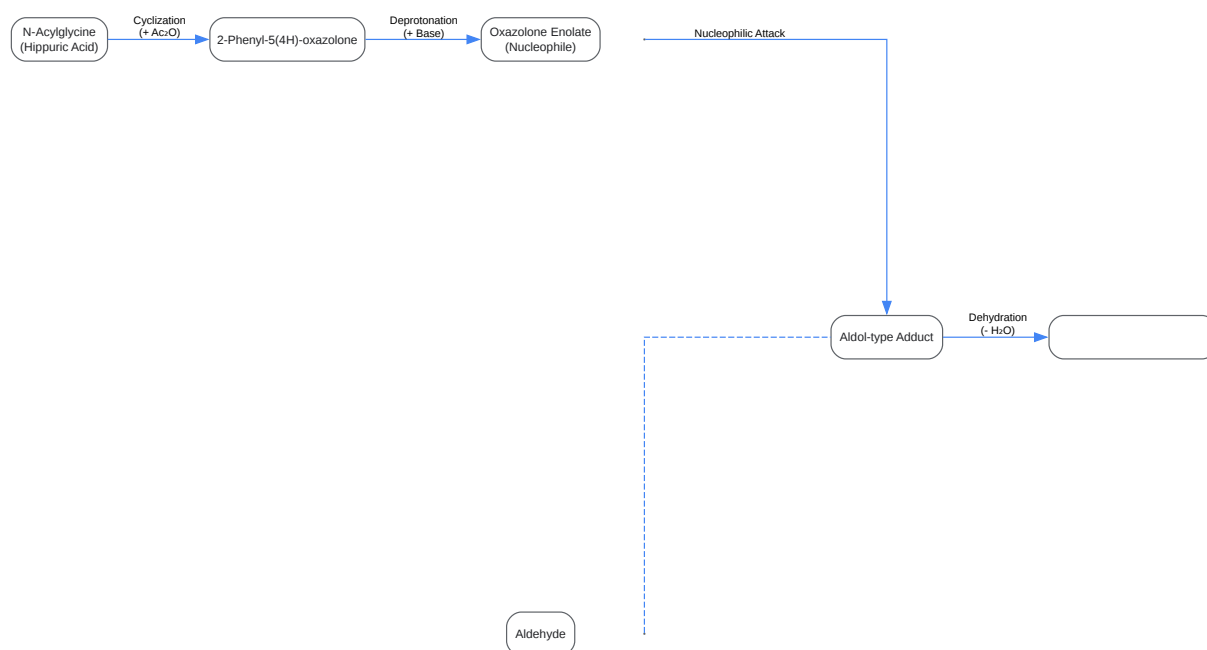

Figure 1. Mechanism of the Erlenmeyer-Plöchl Reaction
- **Dehydration:** The resulting aldol-type adduct readily eliminates a molecule of water to form the thermodynamically stable exocyclic double bond, yielding the final 4-arylidene-5(4H)-oxazolone product.^[8] (See Figure 1 for a visual representation of the mechanism.)